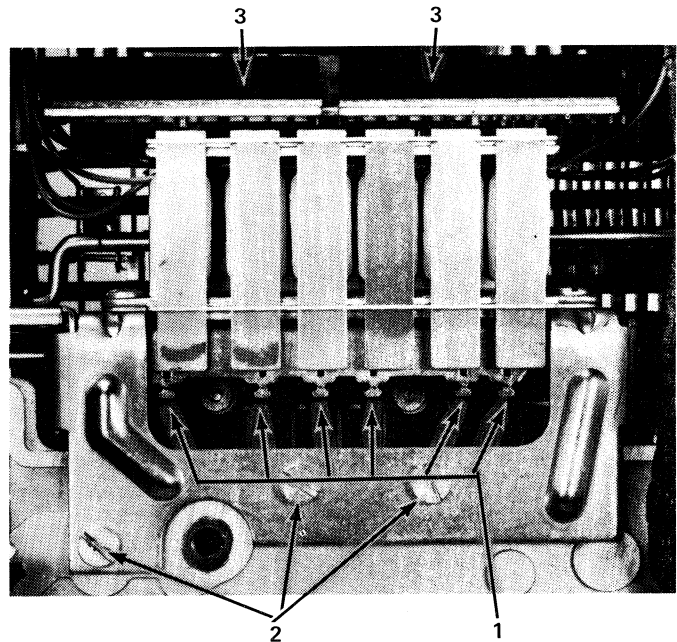

Figure 4-45. Selection Magnets and Selection Interposer Removal (Bottom of Printer)
1. Disconnect the six latch selection link clevises (No. 1, Figure 4-45).
2. Remove the three print magnet assembly mounting screws (No. 2, Figure 4-45).
3. Remove the two screws holding the terminal blocks (No. 3, Figure 4-45).